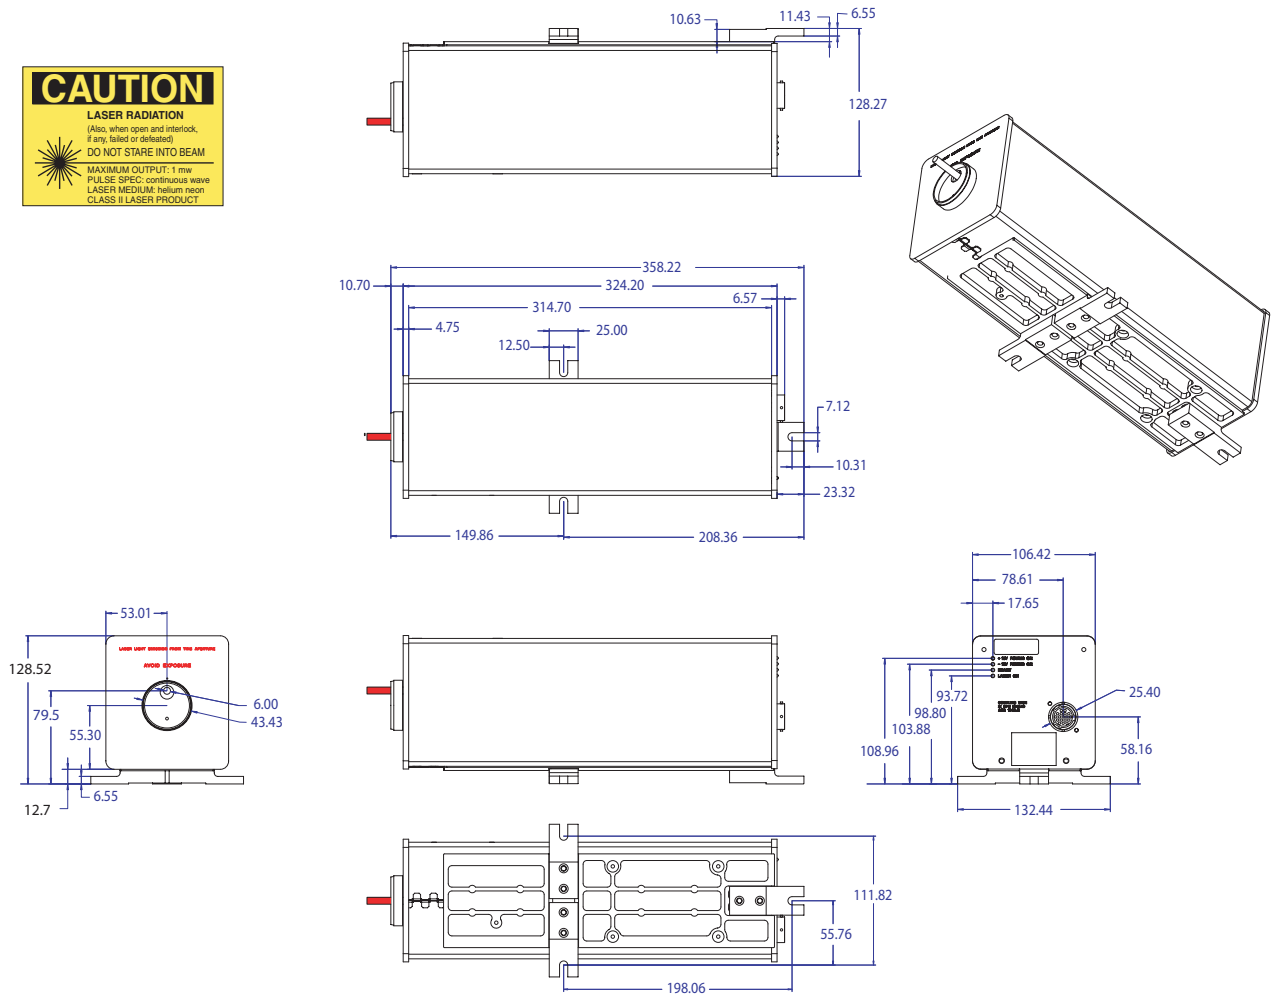
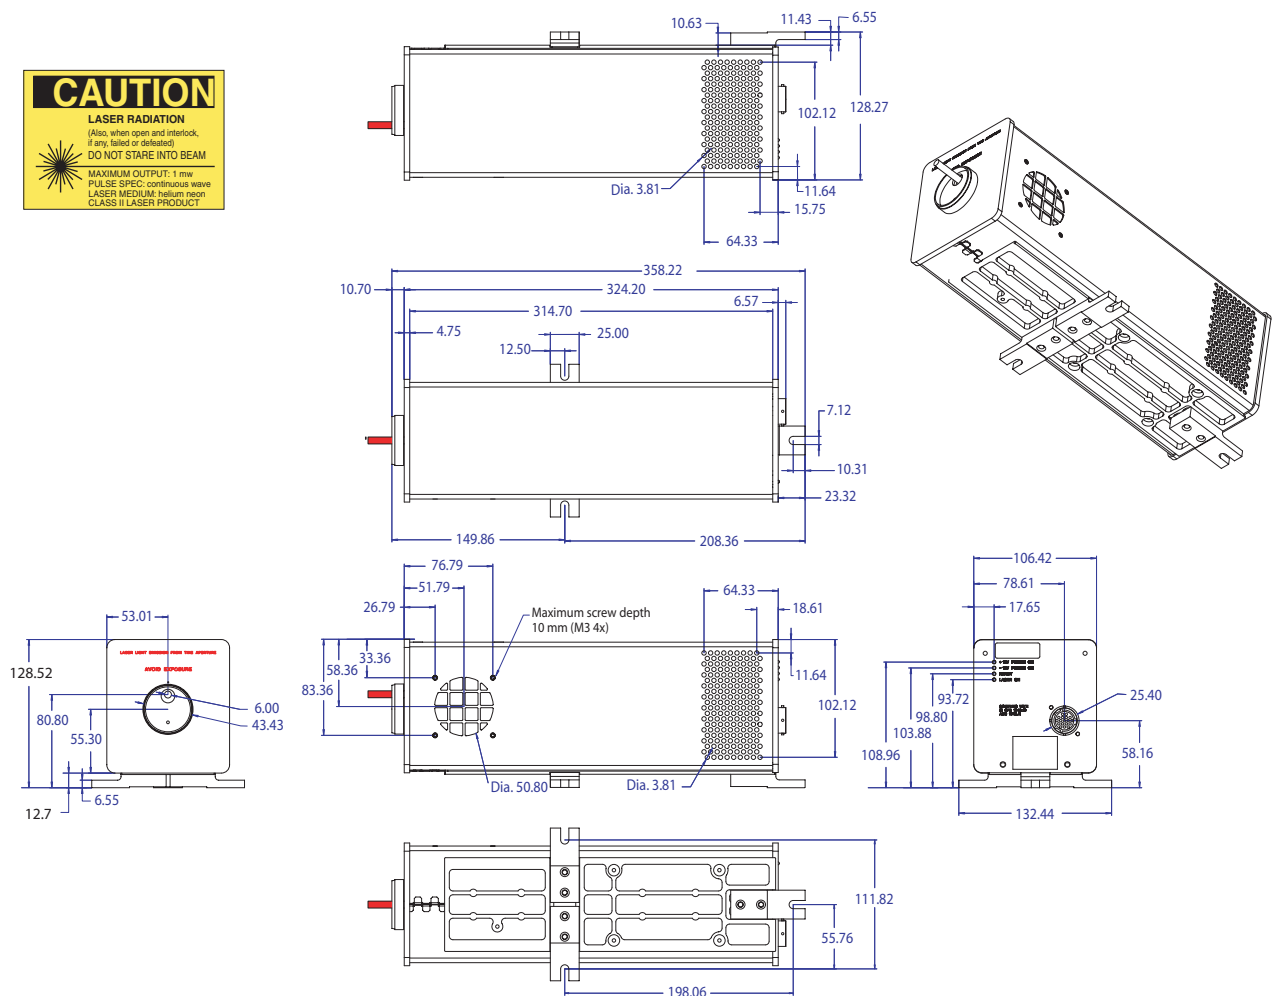

Figure 76 Agilent 5517B/C/D Laser Head dimensions and mounting location
Figure 77 Agilent 5517BL/CL/DL Laser Head dimensions and mounting location
- 5517B/C/D beam height is 79.5 mm (see Figure 76 on page 352).
- 5517BL/DL/FL beam height is 80.8 mm (see Figure 77 on page 353).
<p>PHYSICAL CHARACTERISTICS</p> <p>Dimensions (5517B): See <a href="#">Figure 76</a> on page 352</p> <p>Dimensions (5517BL): See <a href="#">Figure 77</a> on page 353</p> <p>Weight: 3.4 Kilograms (7.5 pounds)</p> <p>Magnetic Field Strength (Non-Operating):</p> <p>Does not exceed 5.25 milligauss at a distance of 460 cm (15 ft) from any point on the surface of the packaged Laser Head.</p> <p>Clearance Required for Cabling: 10.16 cm (4 in) beyond back</p> <p>POWER</p> <p>Power Input Requirements:</p> <p>+15 Volts <math>\pm 0.3</math> Volts at 2.2 Amperes maximum</p> <p>-15 Volts <math>\pm 0.3</math> Volts at 0.02 Ampere maximum</p> <p>Heat Dissipation: 23 watts (during operation)</p> <p>35 watts (during warmup)</p> <p>Venting (5517BL Only): Allows forced air cooling to reduce the power dissipated into the application. Heat exhaust efficiency (typical, depends on environmental conditions): 80%</p> <p>Warmup Time: less than 10 minutes (4 minutes typical)</p>	<p>LASER BEAM CHARACTERISTICS</p> <p>Type: Helium-Neon, Continuous, Two-Frequency</p> <p>Maximum Beam Power Output: 1 milliwatt</p> <p>Minimum Beam Power Output: 120 microwatts</p> <p>Beam Diameter: 6 millimeters (0.25 inch) typical</p> <p>Vacuum Wavelength Accuracy (3 sigma, lifetime): <math>\pm 0.1</math> ppm</p> <p>Vacuum Wavelength Stability (typical 1 hour): <math>\pm 0.002</math> ppm</p> <p>Vacuum Wavelength Stability (typical lifetime): <math>\pm 0.02</math> ppm</p> <p>Nominal Vacuum Wavelength: 632.99137 nanometers</p> <p>Safety Classification:</p> <p>Class II Laser Product conforming to U.S. National Center for Devices and Radiological Health Regulations 21 CFR 1040.10 and 1040.11.</p> <p>OUTPUTS</p> <p>Reference Frequency: 1.9 - 2.4 MHz</p>
<p>PHYSICAL CHARACTERISTICS</p> <p>Dimensions: See <a href="#">Figure 76</a> on page 352</p> <p>Weight: 3.4 Kilograms (7.5 pounds)</p> <p>Magnetic Field Strength (Non-Operating):</p> <p>Does not exceed 5.25 milligauss at a distance of 460 cm (15 ft) from any point on the surface of the packaged Laser Head.</p> <p>Clearance Required for Cabling: 10.16 cm (4 in) beyond back</p> <p>POWER</p> <p>Power Input Requirements:</p> <p>+15 Volts <math>\pm 0.3</math> Volts at 2.2 Amperes maximum</p> <p>-15 Volts <math>\pm 0.3</math> Volts at 0.02 Ampere maximum</p> <p>Heat Dissipation: 23 watts (during operation)</p> <p>35 watts (during warmup)</p> <p>Warmup Time: less than 10 minutes (4 minutes typical)</p>	<p>LASER BEAM CHARACTERISTICS</p> <p>Type: Helium-Neon, Continuous, Two-Frequency</p> <p>Maximum Beam Power Output: 1 milliwatt</p> <p>Minimum Beam Power Output: 180 microwatts</p> <p>Beam Diameter: 6 millimeters, 0.25 inch, typical (Standard)</p> <p>3 millimeters typical (5517C-003)</p> <p>Vacuum Wavelength Accuracy (3 sigma, lifetime): <math>\pm 0.1</math> ppm</p> <p>Vacuum Wavelength Stability (typical 1 hour): <math>\pm 0.002</math> ppm</p> <p>Vacuum Wavelength Stability (typical lifetime): <math>\pm 0.02</math> ppm</p> <p>Nominal Vacuum Wavelength: 632.991354 nanometers</p> <p>Safety Classification:</p> <p>Class II Laser Product conforming to U.S. National Center for Devices and Radiological Health Regulations 21 CFR 1040.10 and 1040.11.</p> <p>OUTPUTS</p> <p>Reference Frequency: 2.4 - 3.0 MHz</p>
Dimensions: See <a href="#">Figure 76</a> on page 352 Weight: 3.4 Kilograms (7.5 pounds) Magnetic Field Strength (Non-Operating): Does not exceed 5.25 milligauss at a distance of 460 cm (15 ft) from any point on the surface of the packaged Laser Head. Clearance Required for Cabling: 10.16 cm (4 in) beyond back	Type: Helium-Neon, Continuous, Two-Frequency Maximum Beam Power Output: 1 milliwatt Minimum Beam Power Output: 180 microwatts Beam Diameter: 9 millimeters typical Vacuum Wavelength Accuracy (3 sigma, lifetime): $\pm 0.1$ ppm Vacuum Wavelength Stability (typical 1 hour): $\pm 0.002$ ppm Vacuum Wavelength Stability (typical lifetime): $\pm 0.02$ ppm Nominal Vacuum Wavelength: 632.991354 nanometers
Dimensions (5517D): See <a href="#">Figure 76</a> on page 352 Dimensions (5517DL): See <a href="#">Figure 77</a> on page 353 Weight: 3.4 Kilograms (7.5 pounds) Magnetic Field Strength (Non-Operating): Does not exceed 5.25 milligauss at a distance of 460 cm (15 ft) from any point on the surface of the packaged Laser Head. Clearance Required for Cabling: 10.16 cm (4 in) beyond back	Type: Helium-Neon, Continuous, Two-Frequency Maximum Beam Power Output: 1 milliwatt Minimum Beam Power Output: 180 microwatts Beam Diameter: 6 millimeters, 0.25 inch, typical 9 millimeters, 0.35 inch, typical (5517DL-009) Vacuum Wavelength Accuracy (3 sigma, lifetime): $\pm 0.1$ ppm Vacuum Wavelength Stability (typical 1 hour): $\pm 0.002$ ppm Vacuum Wavelength Stability (typical lifetime): $\pm 0.02$ ppm Nominal Vacuum Wavelength: 632.991354 nanometers
<p>PHYSICAL CHARACTERISTICS</p> <p>Dimensions: See <a href="#">Figure 77</a> on page 353</p> <p>Weight: 3.4 Kilograms (7.5 pounds)</p> <p>Magnetic Field Strength (Non-Operating): Does not exceed 5.25 milligauss at a distance of 460 cm (15 ft) from any point on the surface of the packaged Laser Head.</p> <p>Clearance Required for Cabling: 10.16 cm (4 in) beyond back</p> <p>POWER</p> <p>Power Input Requirements: +15 Volts <math>\pm 0.3</math> Volts at 2.2 Amperes maximum -15 Volts <math>\pm 0.3</math> Volts at 0.02 Ampere maximum</p> <p>Heat Dissipation: 23 watts (during operation) 35 watts (during warmup)</p> <p>Venting : Allows forced air cooling to reduce the power dissipated into the application. Heat exhaust efficiency (typical, depends on environmental conditions): 75%</p> <p>Warmup Time: less than 10 minutes (4 minutes typical)</p>	<p>LASER BEAM CHARACTERISTICS</p> <p>Type: Helium-Neon, Continuous, Two-Frequency</p> <p>Maximum Beam Power Output: 1 milliwatt</p> <p>Minimum Beam Power Output: 65 microwatts</p> <p>Beam Diameter: 6 millimeters, 0.25 inch, typical 9 millimeters, 0.35 inch, typical (5517FL-009)</p> <p>Vacuum Wavelength Accuracy (3 sigma, lifetime): <math>\pm 0.1</math> ppm</p> <p>Vacuum Wavelength Stability (typical 1 hour): <math>\pm 0.002</math> ppm</p> <p>Vacuum Wavelength Stability (typical lifetime): <math>\pm 0.02</math> ppm</p> <p>Nominal Vacuum Wavelength: 632.991354 nanometers</p> <p>Safety Classification: Class II Laser Product conforming to U.S. National Center for Devices and Radiological Health Regulations 21 CFR 1040.10 and 1040.11.</p> <p>OUTPUTS</p> <p>Reference Frequency: <math>\geq 7.0</math> MHz</p> <p>Reference Frequency (5517FL-300): <math>\geq 7.2</math> MHz</p>